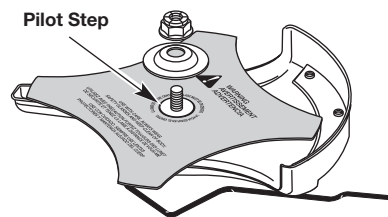

Fig. 12
2. Make sure that the cutting blade is centered on the pilot step and sitting flat against the output shaft bushing (Fig. 12).